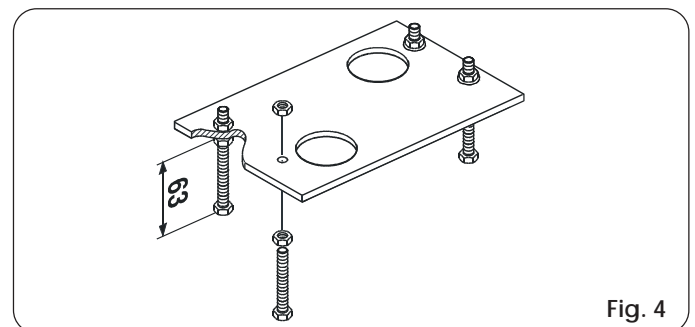

Fig. 4
- 1) Assemble the foundation plate as shown in Fig. 4.